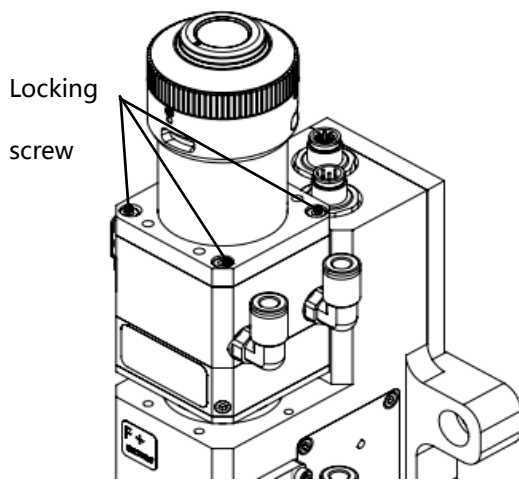

Figure 6.5 - Disassemble collimation components
- Use a 3mm internal hexagonal wrench to unscrew the locking screws of the collimating components (as shown in Figure 6.5), seal the part connected with the components of collimating components with textured paper so as to prevent the entry of dust;